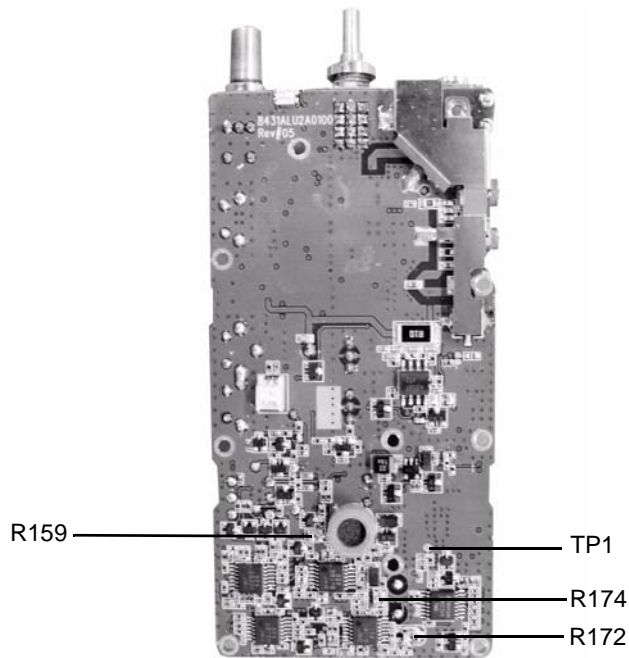

Figure 3-3 Top Side of PCB
6. Using the ceramic tool, adjust R174 to tune to 100% of the maximum deviation (refer to Figure 3-3).
5. Using the ceramic tool, adjust R159 to tune maximum modulation between  $2.4 \pm 0.02$  KHz for narrow band or under 5KHz for wide band (refer to Figure 3-3).
5. Using the ceramic tool, adjust R172 to tune subtone modulation between  $0.42 \pm 0.02$  KHz at narrow band. (refer to Figure 3-3)
2. Detect output voltage at test point TP1 (refer to Figure 3-3).